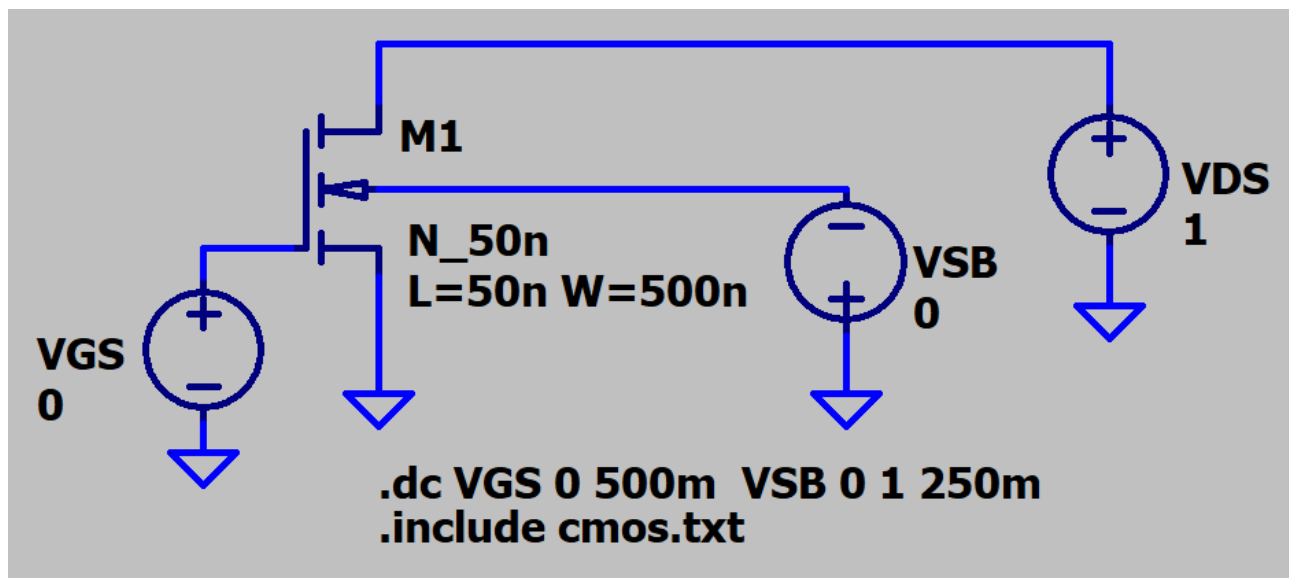

Fig. 15. Body-effect bias
3. How does the drain current (I_d) behave in the body-effect bias circuit in Fig. 15: